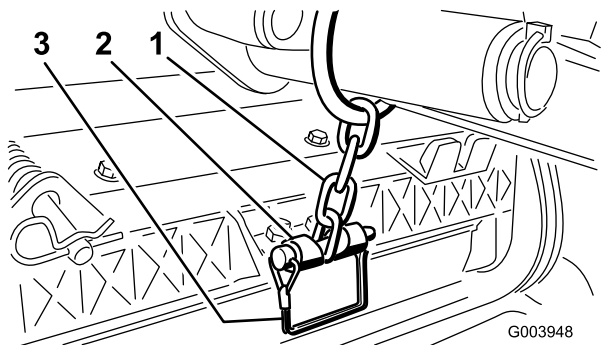

**Figure 18**
- A. Remove the lynch pin and washer securing the lift arm pivot shaft to the lift arm and slide the lift arm pivot shaft out of the lift arm (Figure 18).
- C. Insert the lift arm shaft into the lift arm and secure it with the washer and lynch pin (Figure 18).